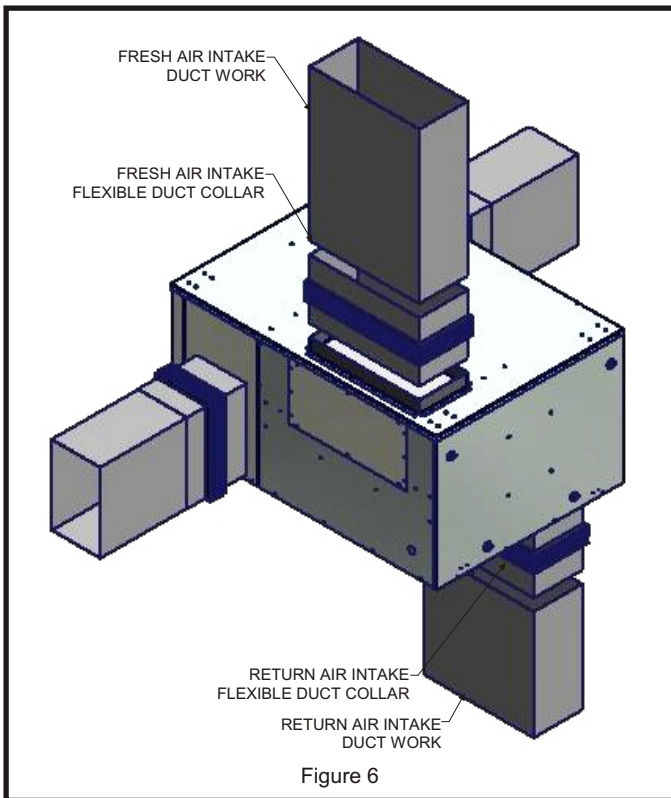

Figure 6
13. Attach Flexible Duct Collar to the MV fresh air intake and secure with screws. **See Figure 6.**
14. Attach fresh air intake duct work to fresh air intake Flexible Duct Collar and secure with screws. **See Figure 6.**
15. Attach Flexible Duct Collar to return air intake and secure with screws. **See Figure 6.**
16. Attach return air intake duct work to return air intake Flexible Duct Collar and secure with screws. **See Figure 6.**